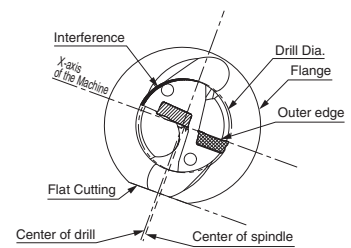

Fig. 4 Excessive offset (For Smaller Hole Diameter)
- Align the drill with the outer insert face parallel to the X-axis of the tool turret. (Fig. 4)
However, be sure not to make the hole diameter smaller than the drill diameter by 0.2mm or more. Otherwise, the toolholder will interfere with the drilled hole. (Fig. 4)